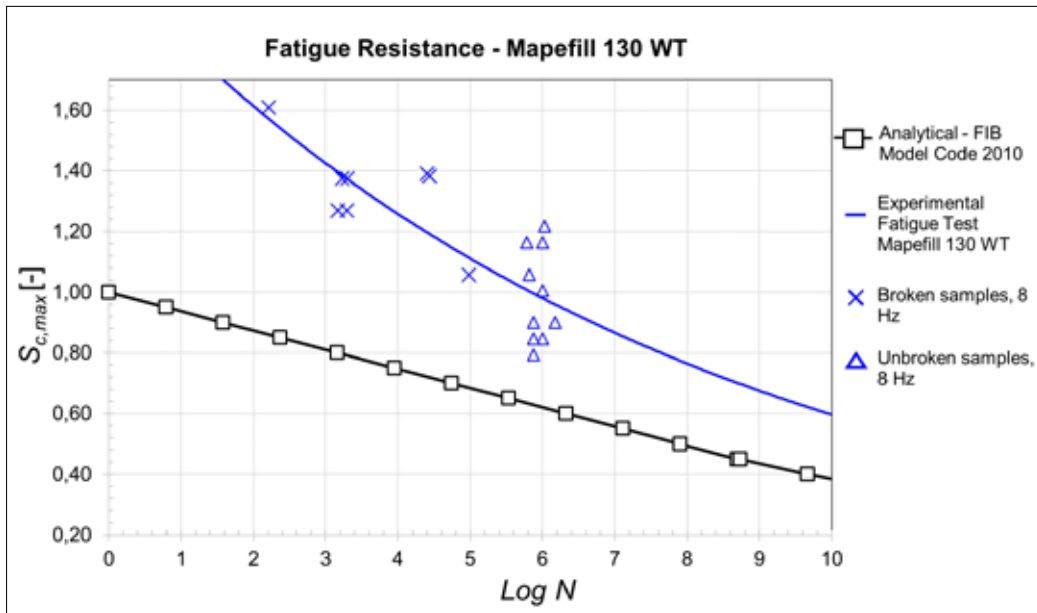

Fig.1
**Mapecure 130 WT** has excellent fatigue resistance and high resistance to dynamic loads. To determine the fatigue properties of **Mapecure 130 WT**, a test campaign was conducted at the Structural Engineering Faculty of the Federico II University of Naples. The product was tested according to the prescriptions in fib Model Code 2010. The results of the tests enabled the characteristic S-N curves of the material to be elaborated: an analytical curve (the black curve in Fig.1), which was found by applying the calculation model in fib Model Code 2010, and an experimental curve (the blue curve in Fig.1), which was calculated by means of compressive strength and fatigue tests performed in the lab by applying different loads to a series of samples of **Mapecure 130 WT**. fib Model Code 2010 supplies the equations to calculate the fatigue failure point of concrete elements in terms of maximum number of load cycles for a given range of constant stresses. In the graph in Fig. 1, the value for Log N is indicated on the X axis, where N represents the maximum number of load cycles for a given stress acting on the samples, while the Y axis indicates the maximum value of the stress acting on the samples, expressed as the ratio between the maximum compressive load applied during the test and the cylinder compressive strength characteristic of fatigue of the material, which takes into account the increasing susceptibility to fatigue of concrete as its compressive strength increases.